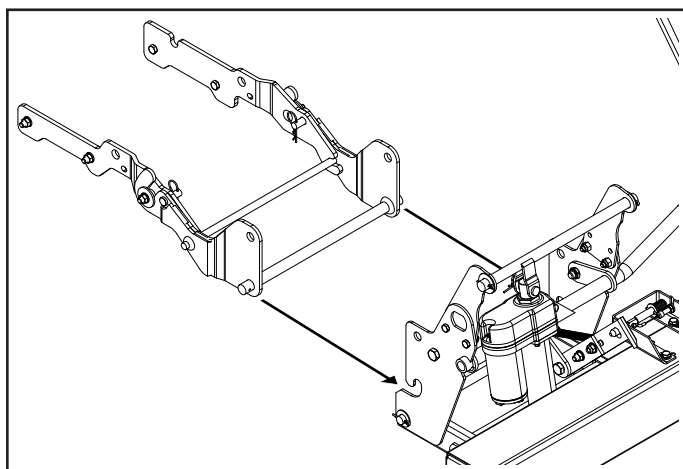

Figure 25.
1. See figure 25. Slide the adapter assembly into the slots on the mounting brackets.
6. See figure 25. Slide the adapter assembly off of the slots on the mounting brackets.